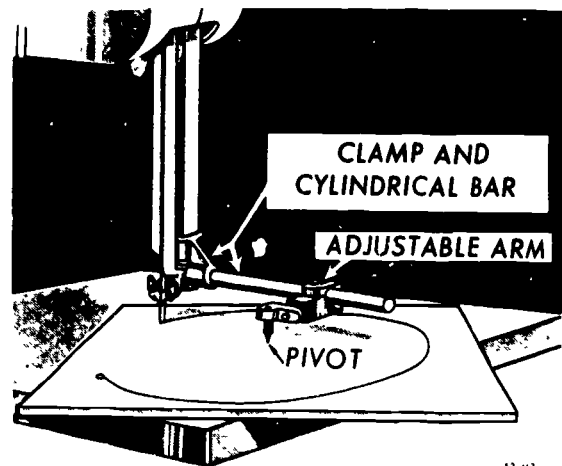

Figure 3-20. Disc-cutting attachments.
**Disc-Cutting Attachment.** You can use the disc-cutting attachment to saw internal or external circles and discs. The diameter of the circle which you can cut is limited to the length of the cylindrical bar on the attachment or to the throat depth of the machine. The disc-cutting attachment consists of three parts: (1) a clamp and cylindrical bar, which can be fastened to the saw guidepost; (2) an adjustable arm that slides on the cylindrical bar; and (3) a pivot or centering pin - all shown in figure 3-20. The disc must be laid out and the center drilled with a center drill to a depth of  $\frac{1}{8}$  inch to  $\frac{3}{16}$  inch to provide a pivot point for the centering pin. You can feed the work into the saw band by hand or by power feed. **NOTE:** If you use power feed, you should lock the right cable so that all the force of the weight will be applied to the left cable. Wrap the chain on the left cable around the work two turns. When the weight is applied, the work will rotate clockwise into the saw. The centerline of the centering pin must be in line with the front edge of the sawteeth and at the desired distance from the saw band.
**Exercises (236):**